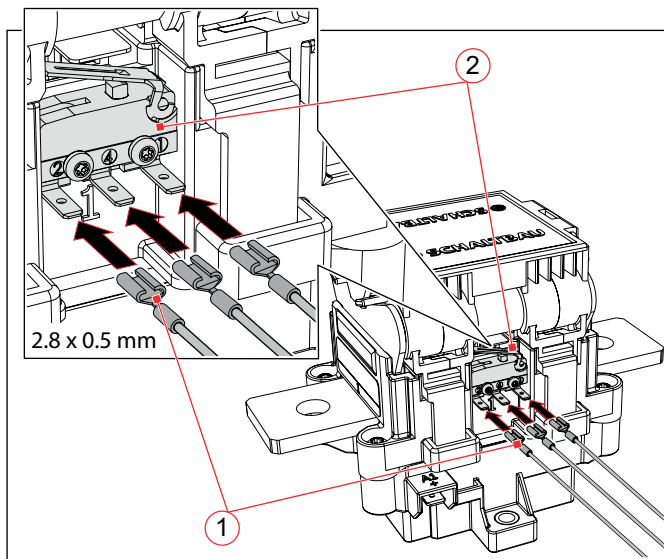

Fig. 16: Connecting the S880 auxiliary switch (the figure shows C360A, the procedure is identical for C360K and C360S)
- ▶ Move and route the control wires and receptacles only in the direction of plugging, see **Fig. 16**.
- ▶ Plug the pre-assembled control wires with the receptacles (1) to the connections (2) of the auxiliary switch.